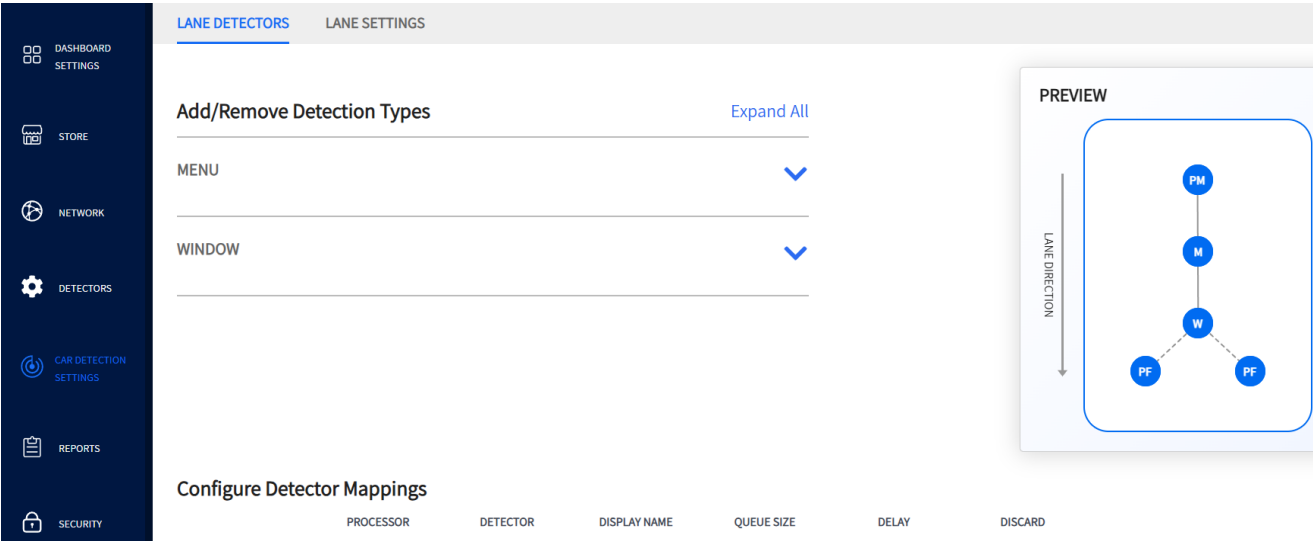
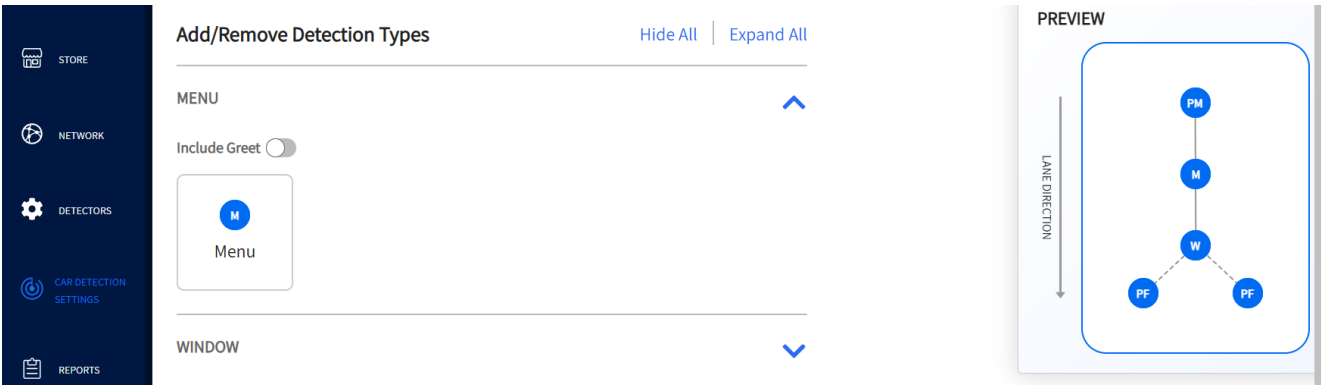
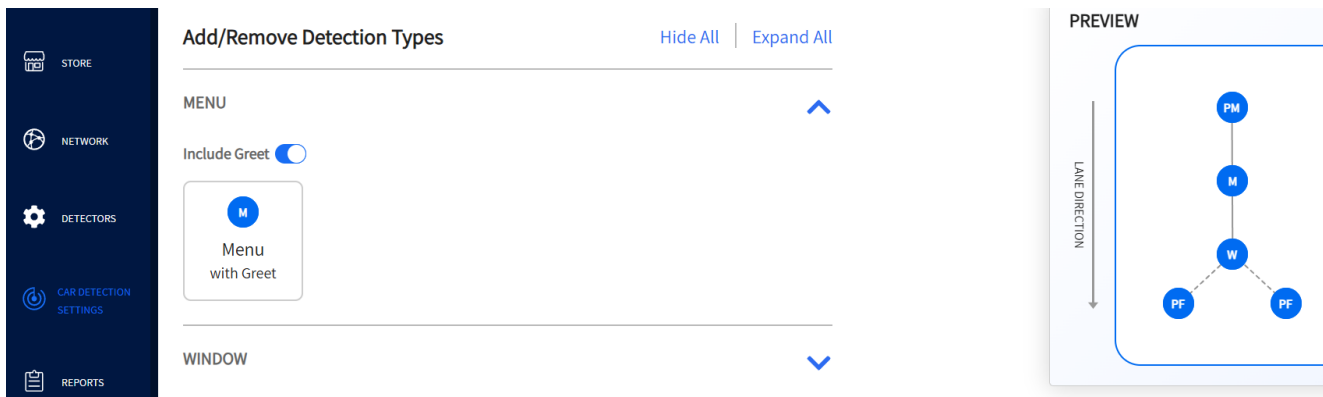

Fig. 8.1
Fig. 8.2
Fig. 8.3
2. Use the **Add/Remove Detection Types** option to select a loop detector location (Fig. 8.2 and 8.3).
Example: Fig. 8.1 shows a Single Lane store with one Pre-Menu (PM), one Menu (M), one Window (W), and two pull-forward detectors (PF). The PM and PF detectors in the PREVIEW pane are cameras which are not configured here but on the **DETECTORS** page. So only Menu and Window are displayed under Add/Remove Detection Types as they are controlled by the TSP60. To make adjustments to these menus, click on the down-arrow to the right of **MENU** to expand (see Fig. 8.2). Toggle the **Include Greet** switch to enable it and notice that it is now reflected in the menu tile beneath the switch (see Fig. 8.3).